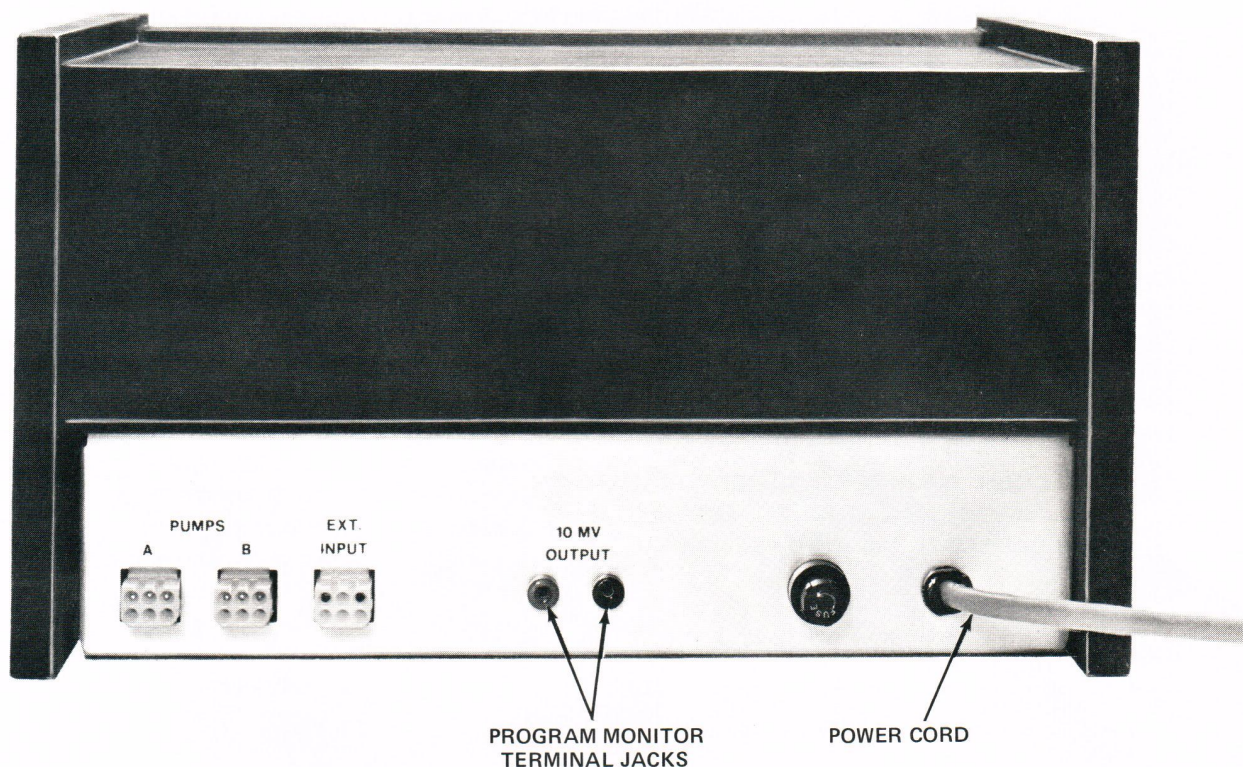

Figure 3-5. Program Monitor Terminal Jacks and Power Cord Locations
The program monitor terminal jacks (Figure 3-5), makes available a 10-millivolt signal which is used for recording program profiles.
- a. Locate the recording cable assembly (Part No. 25565 supplied in the Series 6000 pump start-up kit) and connect the end with pin jacks to the 10 mV outfit on the back of the M660 (Figure 3-5).